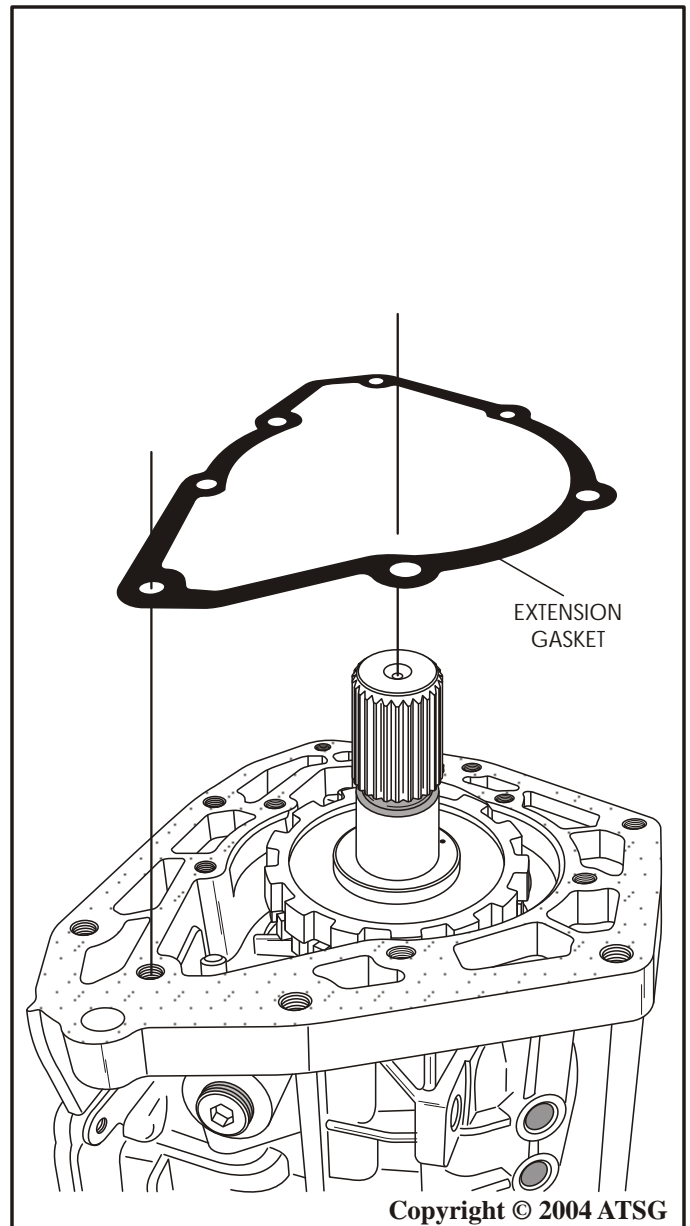

Figure 136
4. Install the extension housing gasket, as shown in Figure 136, and retain with a small amount of Trans-Jel®.